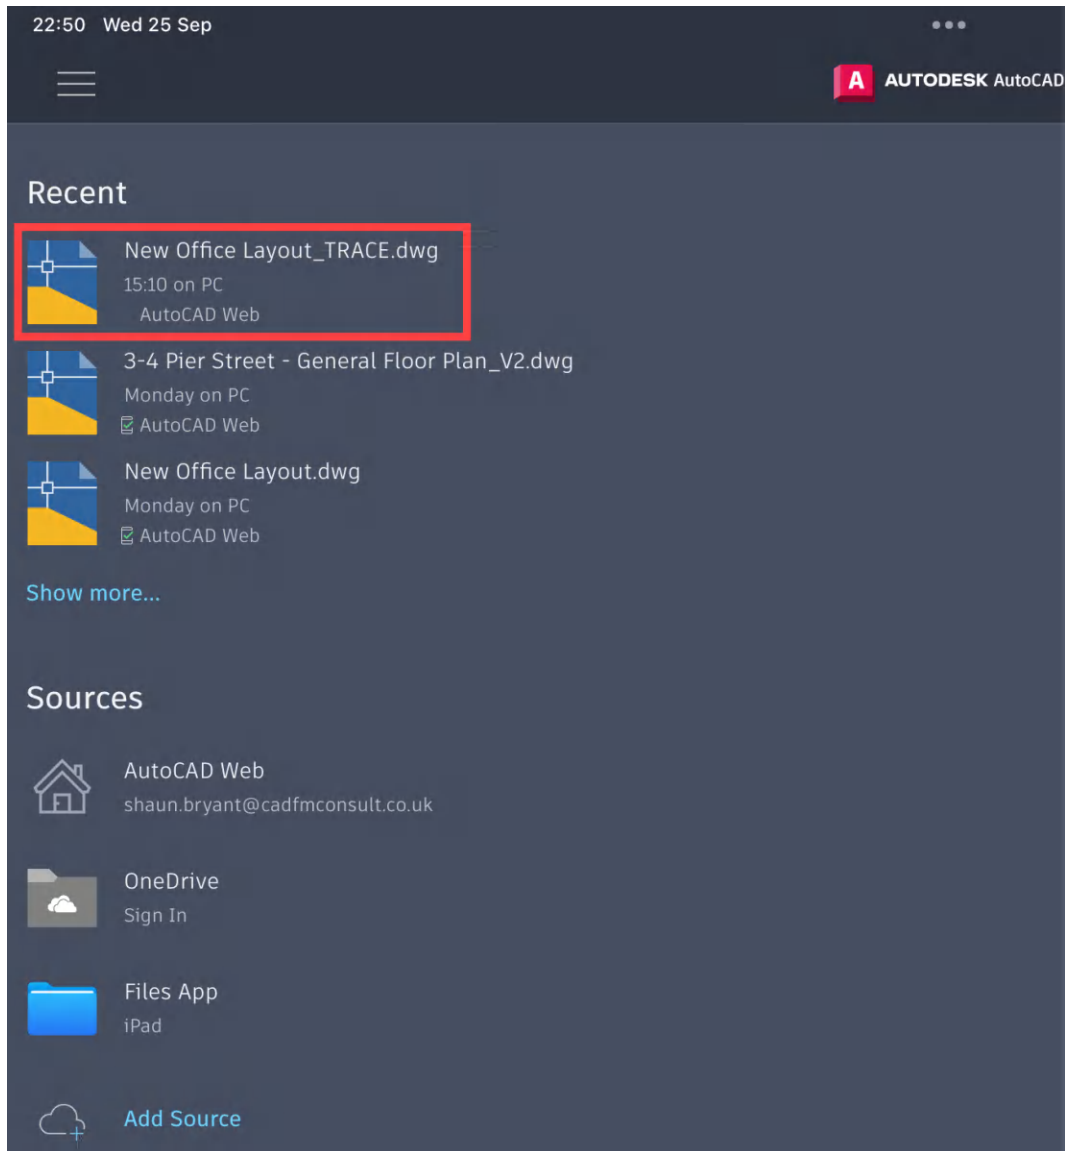

Figure 16.14: The AutoCAD mobile application's Recent and Sources screen
3. Upon logging in, you will see a page that displays a **Recent** panel showing recently accessed files and a **Sources** panel, where you can access other cloud-based file locations, as shown in *Figure 16.14*. You can see the `New Office Layout_TRACE.dwg` file in the **Recent** panel, as it has been accessed on the iPad recently. You can also use AutoCAD Web in the **Sources** panel, which takes you to the **AutoCAD Web & Mobile** folder. Also, note that the listing for the `New Office Layout_TRACE.dwg` file shows you whether it has been accessed on PC (AutoCAD desktop) or via AutoCAD Web.